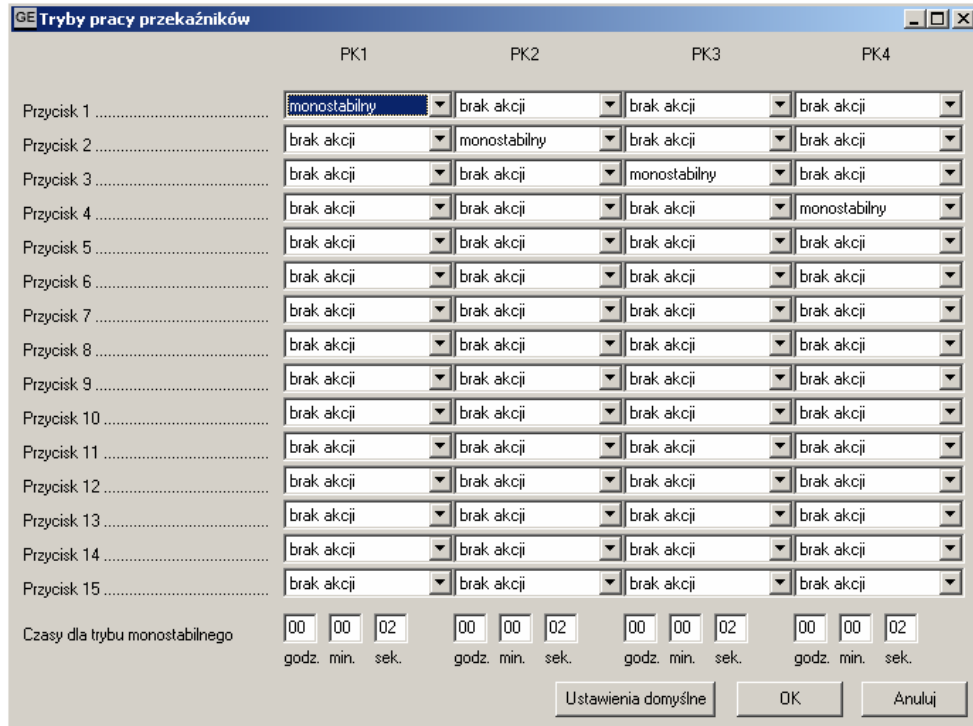

fig. 38
**Point 8.** You can modify the relay’s operating mode in the window shown on the fig.38, after clicking on the Relays’ operating mode button. To save changes, press the OK button.